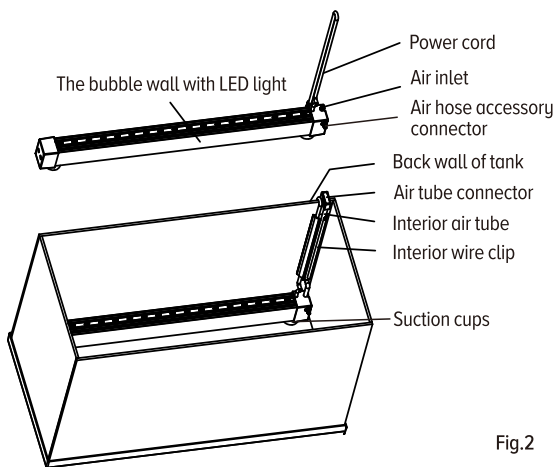

Fig.2
6. Refer to Fig. 2 to install the bubble wall.